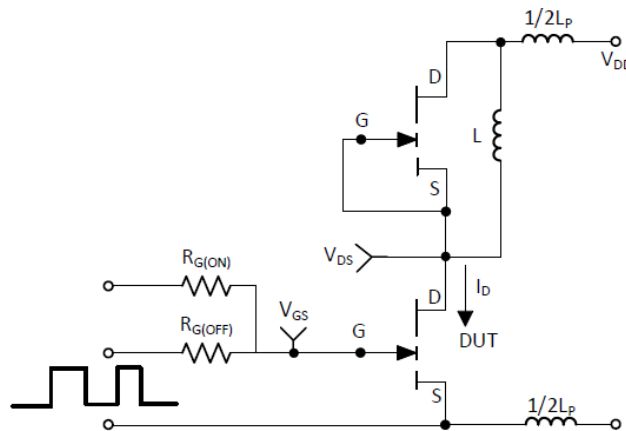

Figure 18: Switching Loss Test Circuit
(6) L_p = parasitic inductance
(7) See Figure 18 for switching loss test circuit